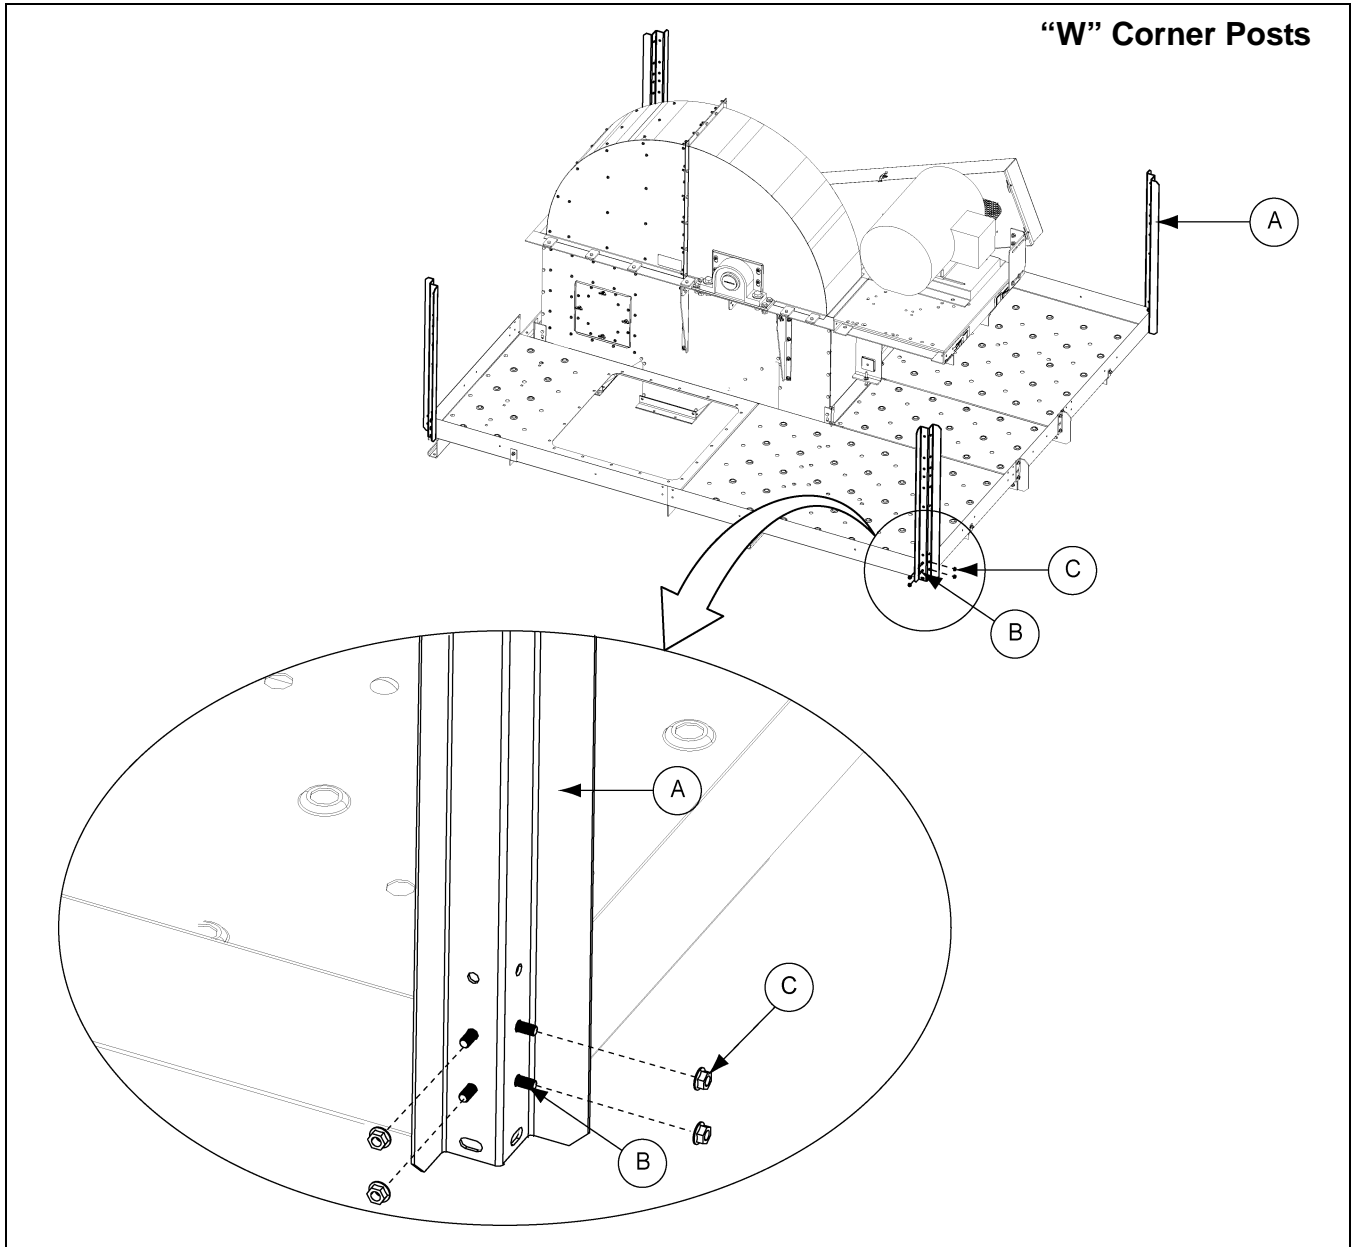

Figure 80
2. Attach each "W" corner post to decking using 5/16" x 3/4" flange bolts (S-6606) and 5/16" flange nuts (S-10268). Torque to standard specifications. (See Figure 80.)